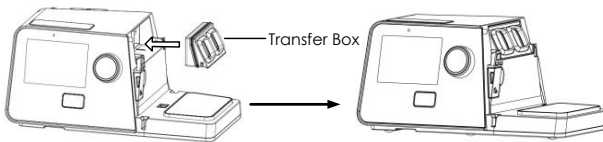

Fig. 16-3
(3) **Putting the Transfer Box back:** as shown in Fig. 16-3.